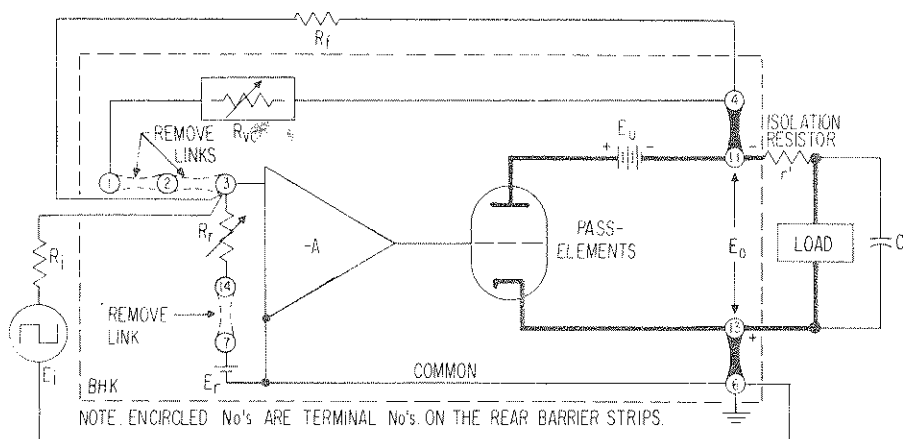

FIG. 3-18 SERIES RESISTOR EXTERNAL FEEDBACK LOOP.
- a) SERIES RESISTOR EXTERNAL TO FEEDBACK LOOP. The advantage of this method is that the network equations are not affected. The disadvantage of this method is the rise in output impedance, evidenced by degraded load regulation. (Refer to FIG. 3-18.)